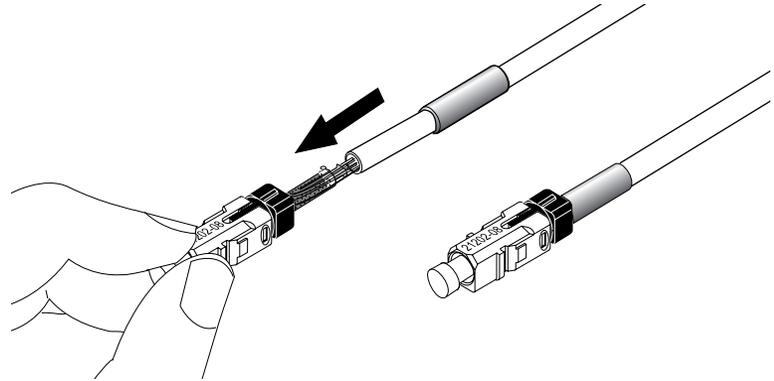

Figure 5-52
**5.8-11** Hold the connector and push the crimp ring over the aramid yarn and against the back of the connector's cam (Figure 5-52).